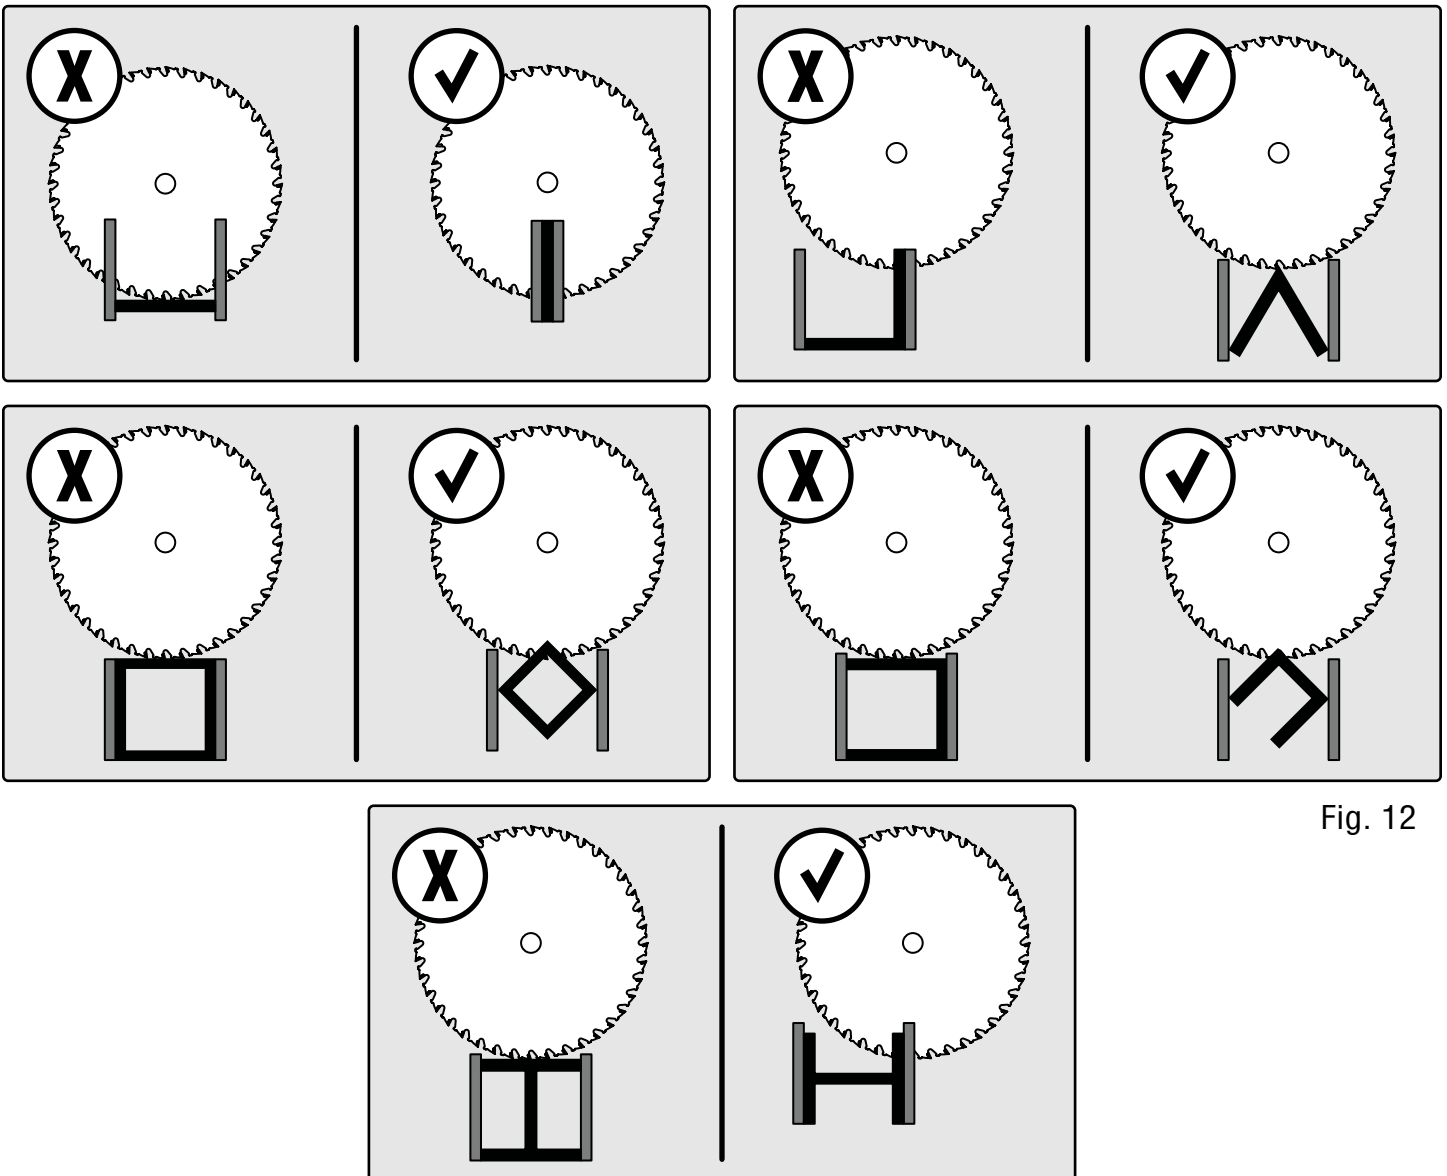

Fig. 12
**NOTE:** Refer to Fig. 12 for the proper cutting orientations for a variety of material shapes.
Secure the work piece with the vise whenever possible to prevent the material from moving during the cutting operation. Refer to Fig. 12 when deciding how to align your work piece for the cut.